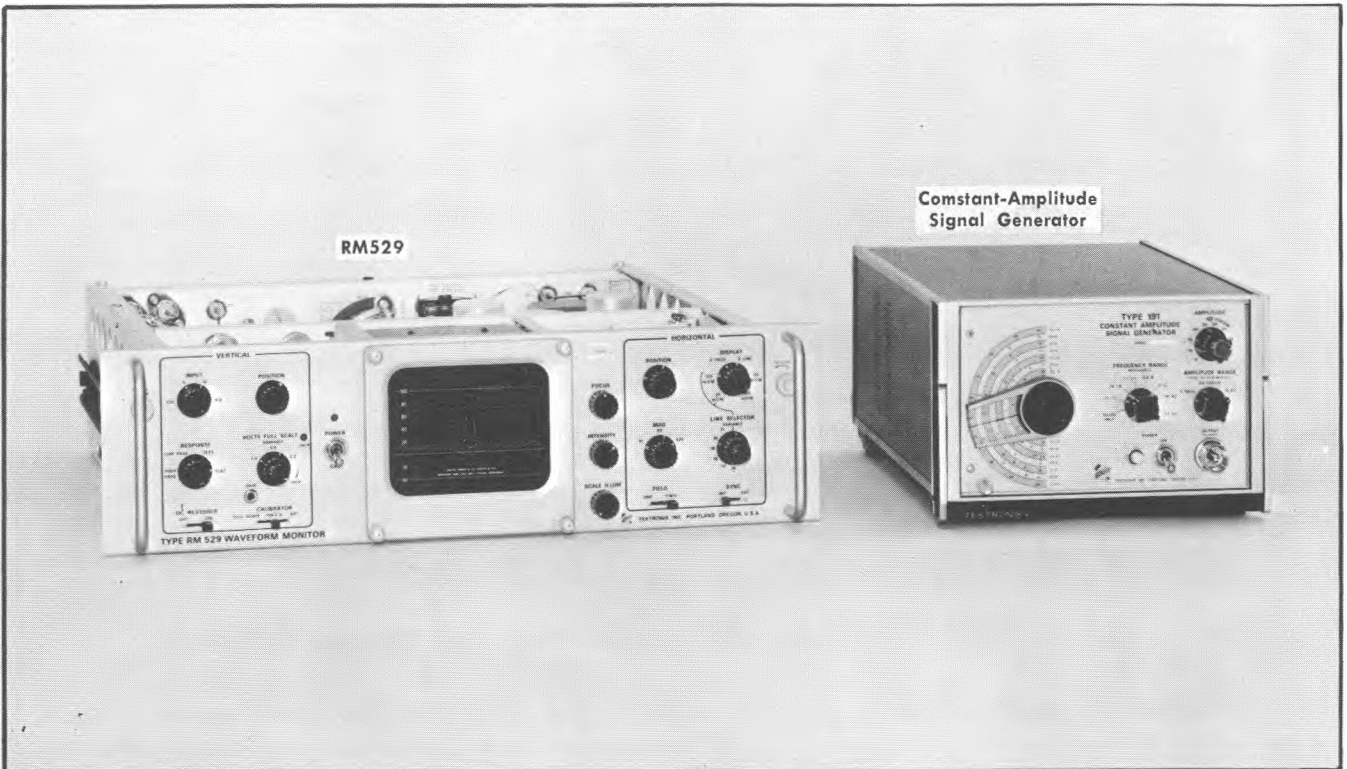
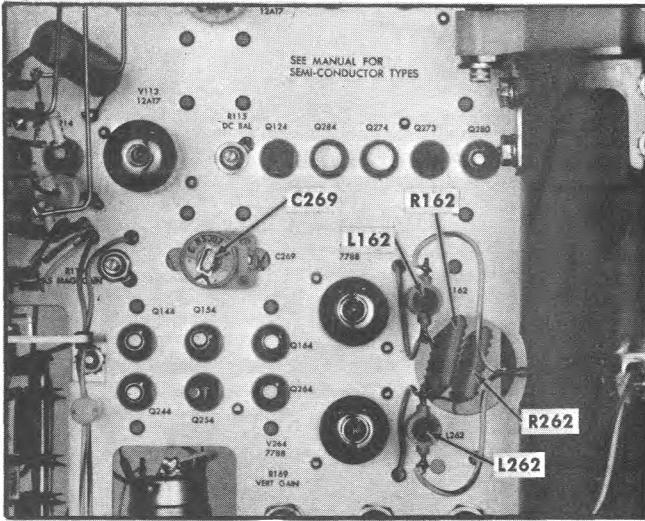

Fig. 6-32. Test equipment required for steps 25 through 30.
Fig. 6-33. Location of C269, R162, R262, L162 and L262.
- a. Test equipment setup as shown in Fig. 6-32.
26. Adjust Vertical-Amplifier 1.0 Flat-Frequency Response (C269, L162 and L262) ①
- c. Adjust the vertical amplifier components (see Fig. 6-33) as listed in Table 6-3 to obtain flat frequency response from 500 kHz to 8 MHz within $\pm 1\%$ to 5 MHz and flat to within $\pm 3\%$ to 8 MHz.
Vertical Amplifier Flat-Frequency Response Adjustments Shown in Fig. 6-33